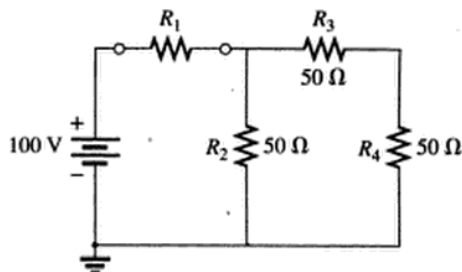

FIG. 9.141
- *35. Find the resistance R_1 in Fig. 9.141 such that the resistor R_4 will receive maximum power. Think!